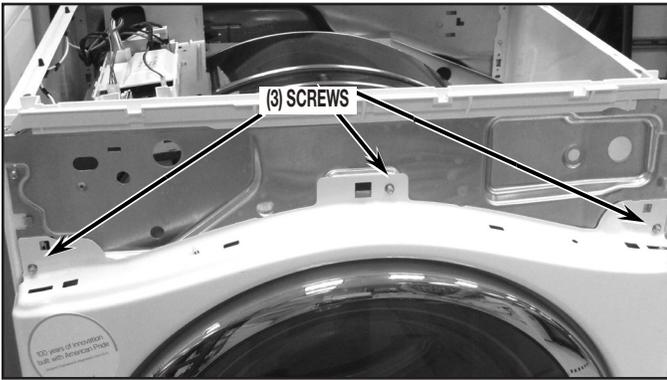

FIGURE 8
12. Next remove the three (3) screws from the top of the front panel as shown in *Figure 8*.